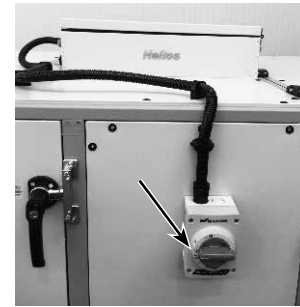

Fig.24
2. Fix main switch to the panel, which is suitable for unit access, with the screw M4x10 (see Fig.24).